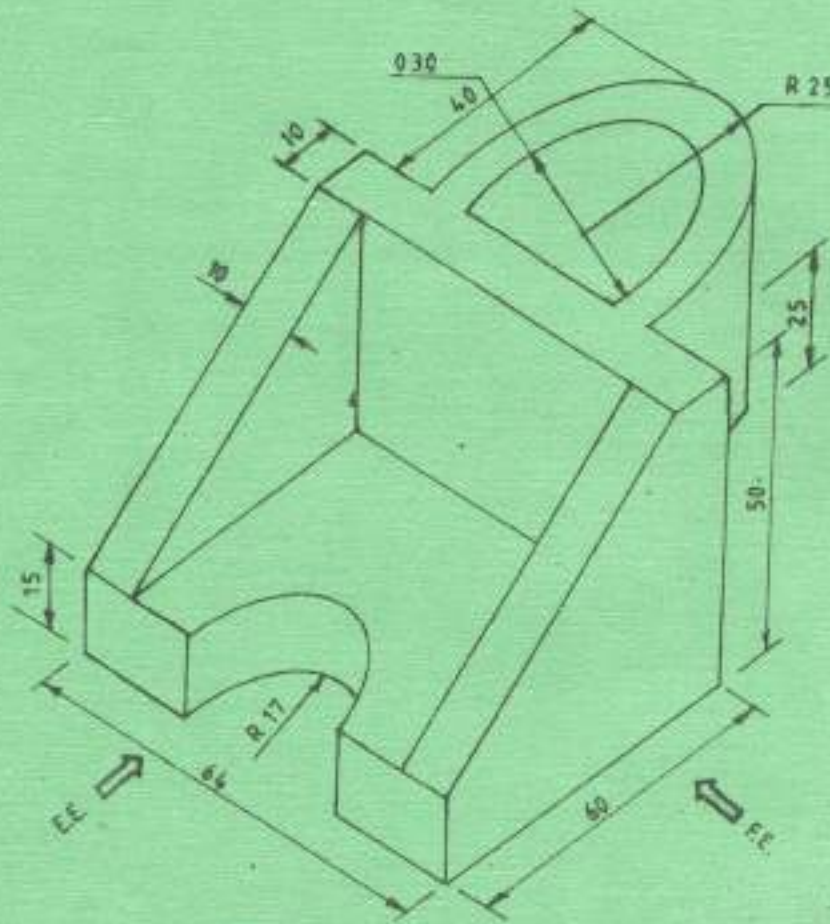

Fig. 2
3. Figure 2 shows an isometric drawing of a machine block. Using third angle projection, draw the following views full size;